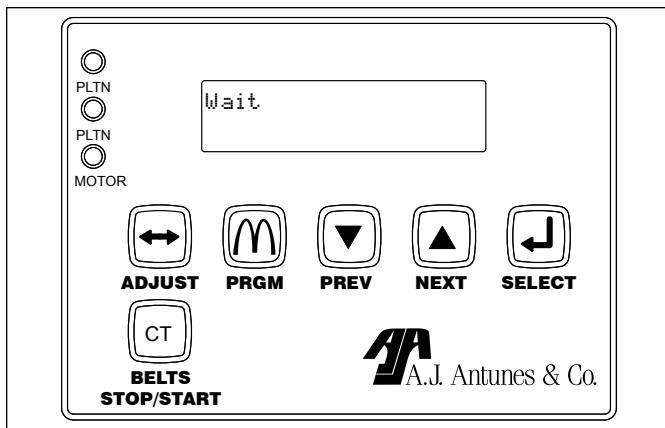

Figure 3. Club Toaster Wait Display
2. The unit will start to warm up and will show the **Wait** message in the display (Figure 3).